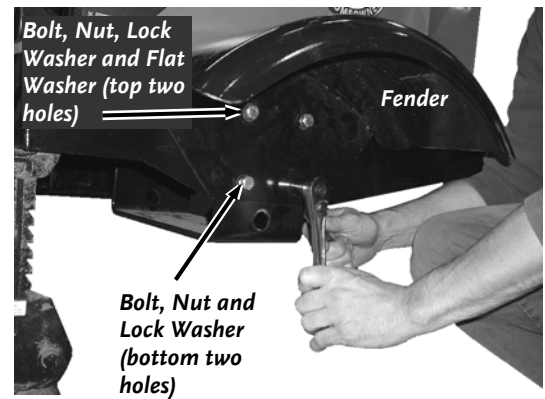

Figure 56
8. Position the Fender and reinstall the four Bolts, Lock Washers and Nuts (Two large washers on top two holes only) to the side of the chipper Frame (**Figure 56**).